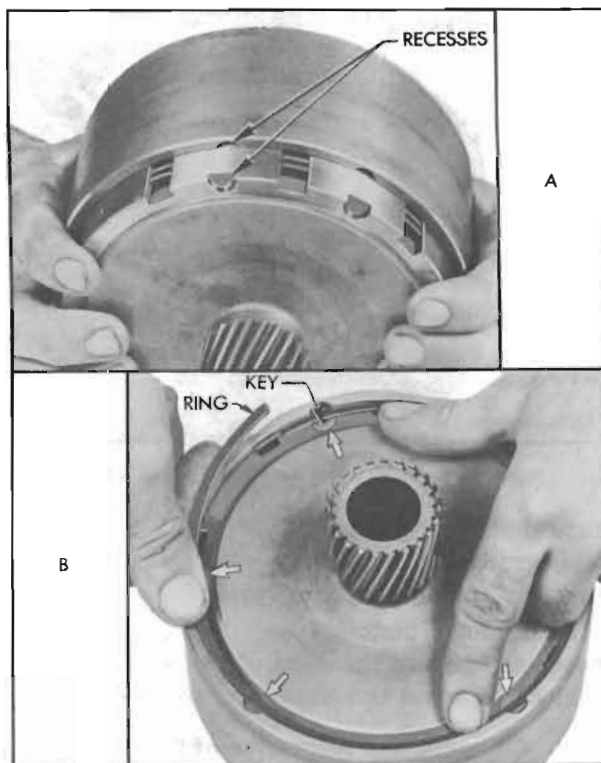

Figure 5-78—Installing Drum Over the Reaction Flange Gear
6. Place the drum and clutch piston assembly over the reaction gear flange so that the driving key recesses in drum and flange are approximately aligned. See figure 5-78, view A. Press the drum evenly into place over the reaction gear flange.
7. Complete the alignment of driving key recesses by tapping the reaction gear flange, then install the 6 driving keys and the reaction gear flange retainer ring. See figure 5-78, view B.